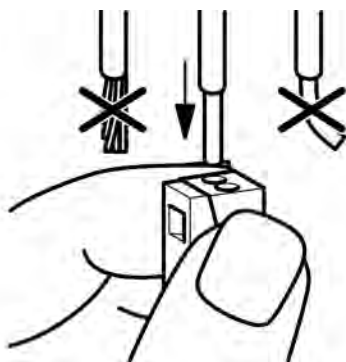

Figure 8: Connection of the single-stranded cable
- Push the single-stranded cable into the round opening on the installation side up to the stop (figure 8).